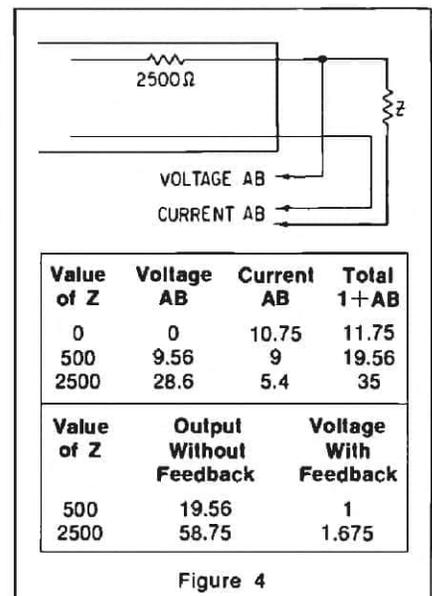

Figure 4
Figure 2. Similar deduction with current feedback: (A) what feedback works with; (B) the effect. Figure 4. Tabulation of values and results of combination feedback designed to make internal impedance equal external nominal. The values are not calculated in the order shown, but as described in the text.
First assume the current feedback with nominal load connected uses an AB factor of 9 (FIGURE 4). This is with a total output circuit impedance of 3,000 ohms, 2,500-ohms internal and 500-ohms external. A short circuit will reduce the total load to 2,500 ohms, increasing current feedback to an AB factor of $6/5 \times 9 = 10.75$. On short-circuit there can be no voltage feedback. So $(1 + AB)$ at short circuit is 11.75.